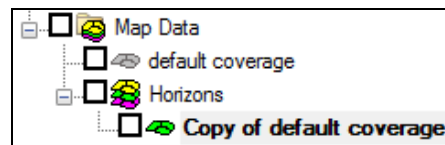

Figure 4 New coverage after moving it
2. Drag the new coverage on top of the “ Horizons” conceptual model. Click **Yes** to dismiss the warning regarding moving the coverage. The new coverage will now be under the “Horizons” conceptual model (Figure 4).